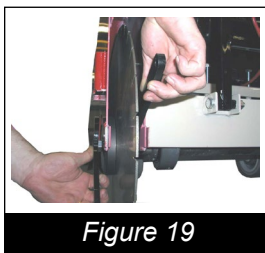

Figure 19
- Fit the blade retaining bolt and internal tooth lock washer, retighten the bolt using the two 1 1/2" - 5/8" combination wrenches which were supplied with the machine. (Figure 19)